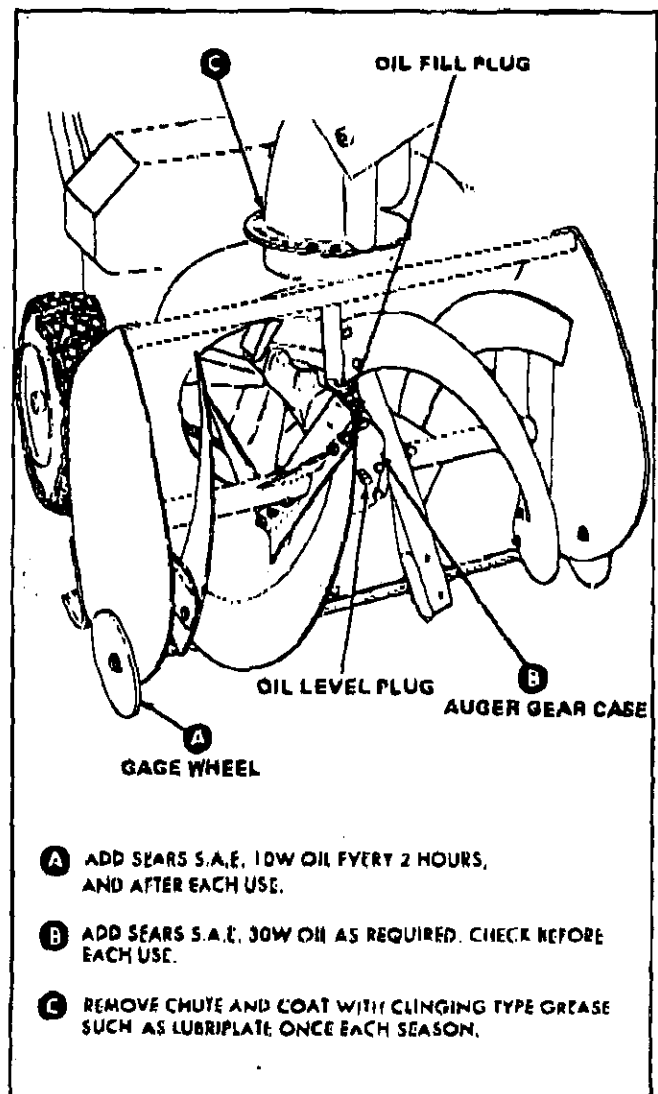

Figure 22
2. Check auger gear case oil level before each use by removing oil level plug (figure 22). Oil should be visible in hole. If oil is required, remove oil fill plug (figure 22) and add SEARS SAE 30 engine oil until oil begins to run out oil level hole. Replace both plugs and tighten securely.